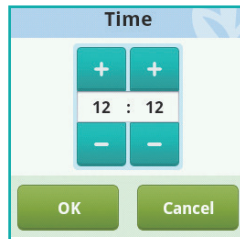

Figure 15
b) Choose the Time setting to open a dialog box (Figure 15) that can be used to input the time. Use the “+” and “-” buttons to select the time, choose OK to save and exit or Cancel to exit without saving.